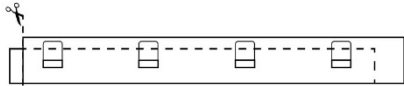

Figure 2
2. Before starting a run, cut the male end off of the blanket, *figure 2*.